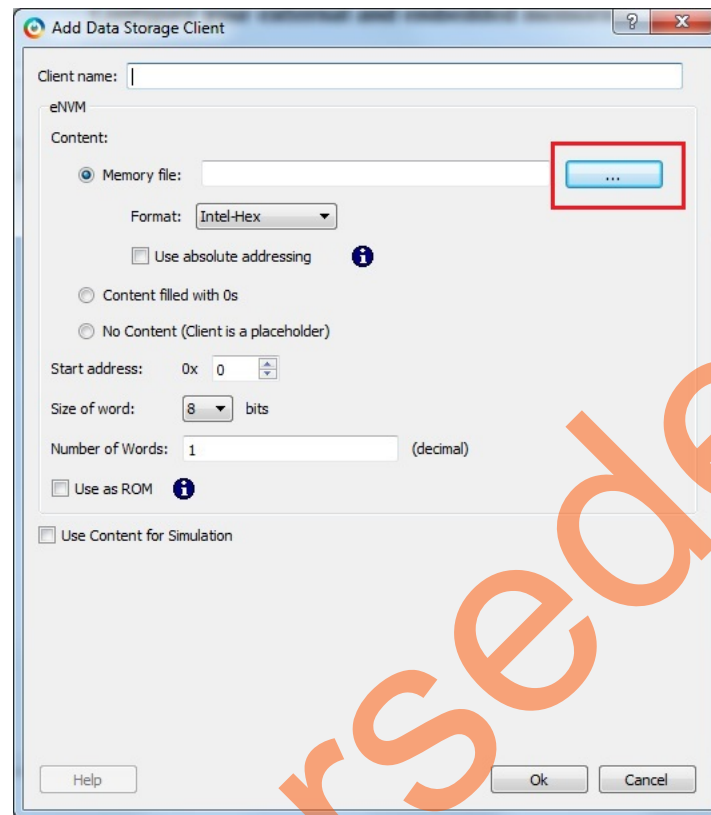

Figure 42 • Add Data Storage Client
16. Select **Data Storage** under the **Available client types** tab and click **Add to System**. The **Add Data Storage Client** window is displayed as shown in Figure 42.